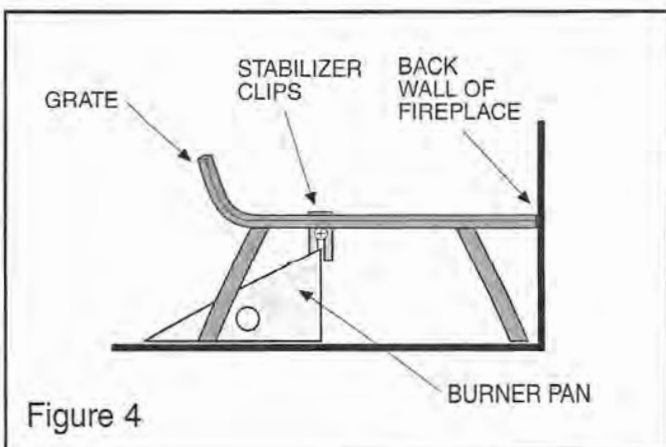

Figure 4
To locate your Real-Fyre gas log set properly in the fireplace, place the grate as far back in the fireplace as possible, centered left-to-right (Figure 4). The grate is tapered. The widest side should face forward.
Place the burner pan under the grate. The open edge should face forward and the back edge of the burner pan should be positioned approximately half way under the grate (Figure 4).
9. Install the **stabilizer clips** (Item 14) on the second grate finger in from either side so that they fit over the back edge of the pan and tighten into place (Figure 4). Remove the grate from the firebox for gas connection and granule placement.